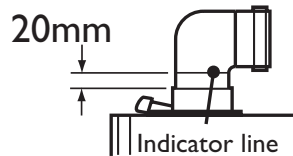

Fig. 49
2. Locate the flue elbow on the adaptor at the top of the boiler. Set the elbow to the required orientation (Fig. 50). The elbow is fully engaged when there is a distance of 20mm from the adaptor to the indicator line (Fig. 49).